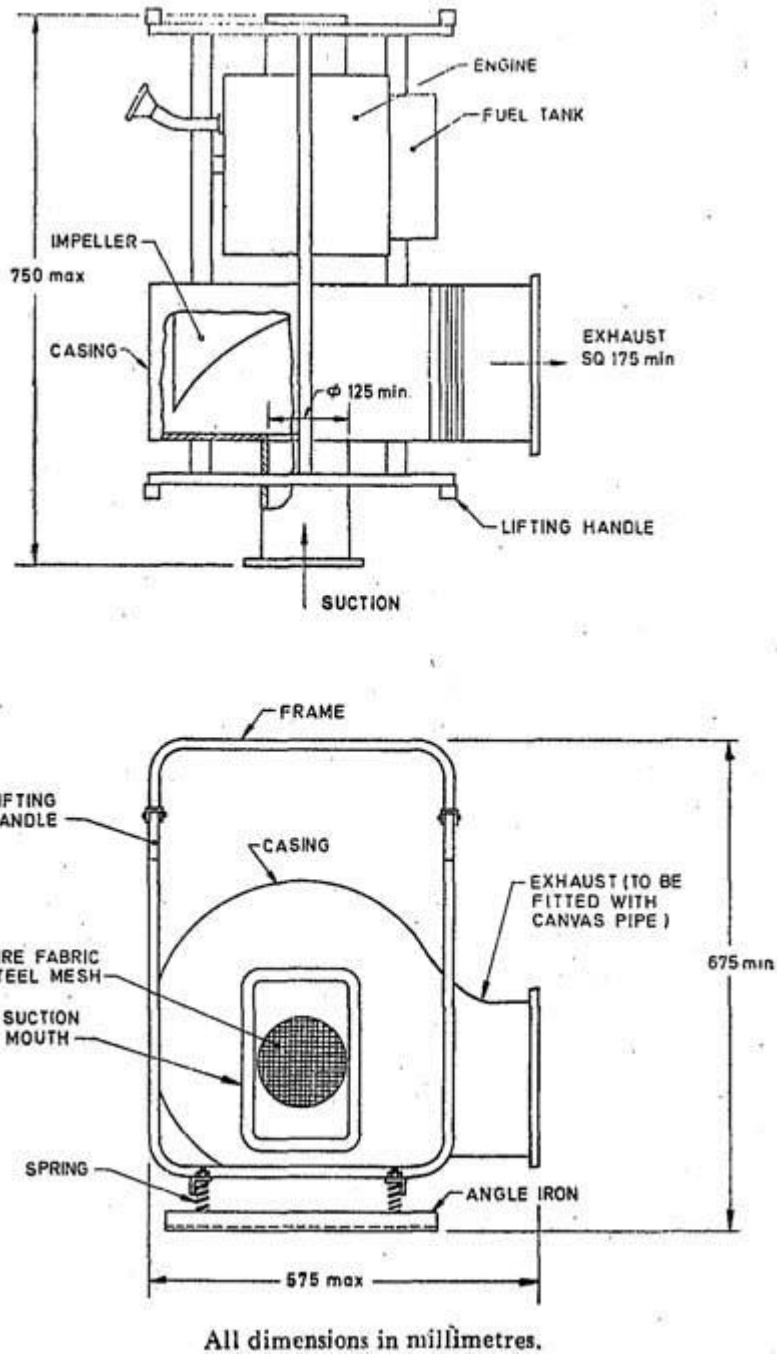

Fig. 1 Details of Blower and Exhauster
4.1 Impeller and engine shall be mounted together and the total weight of the unit with fuel shall not exceed 60 kg. Runner shall be of the overhung type to mount correctly and securely on the extension of the engine shaft. The details shall be as given in Fig. 1.